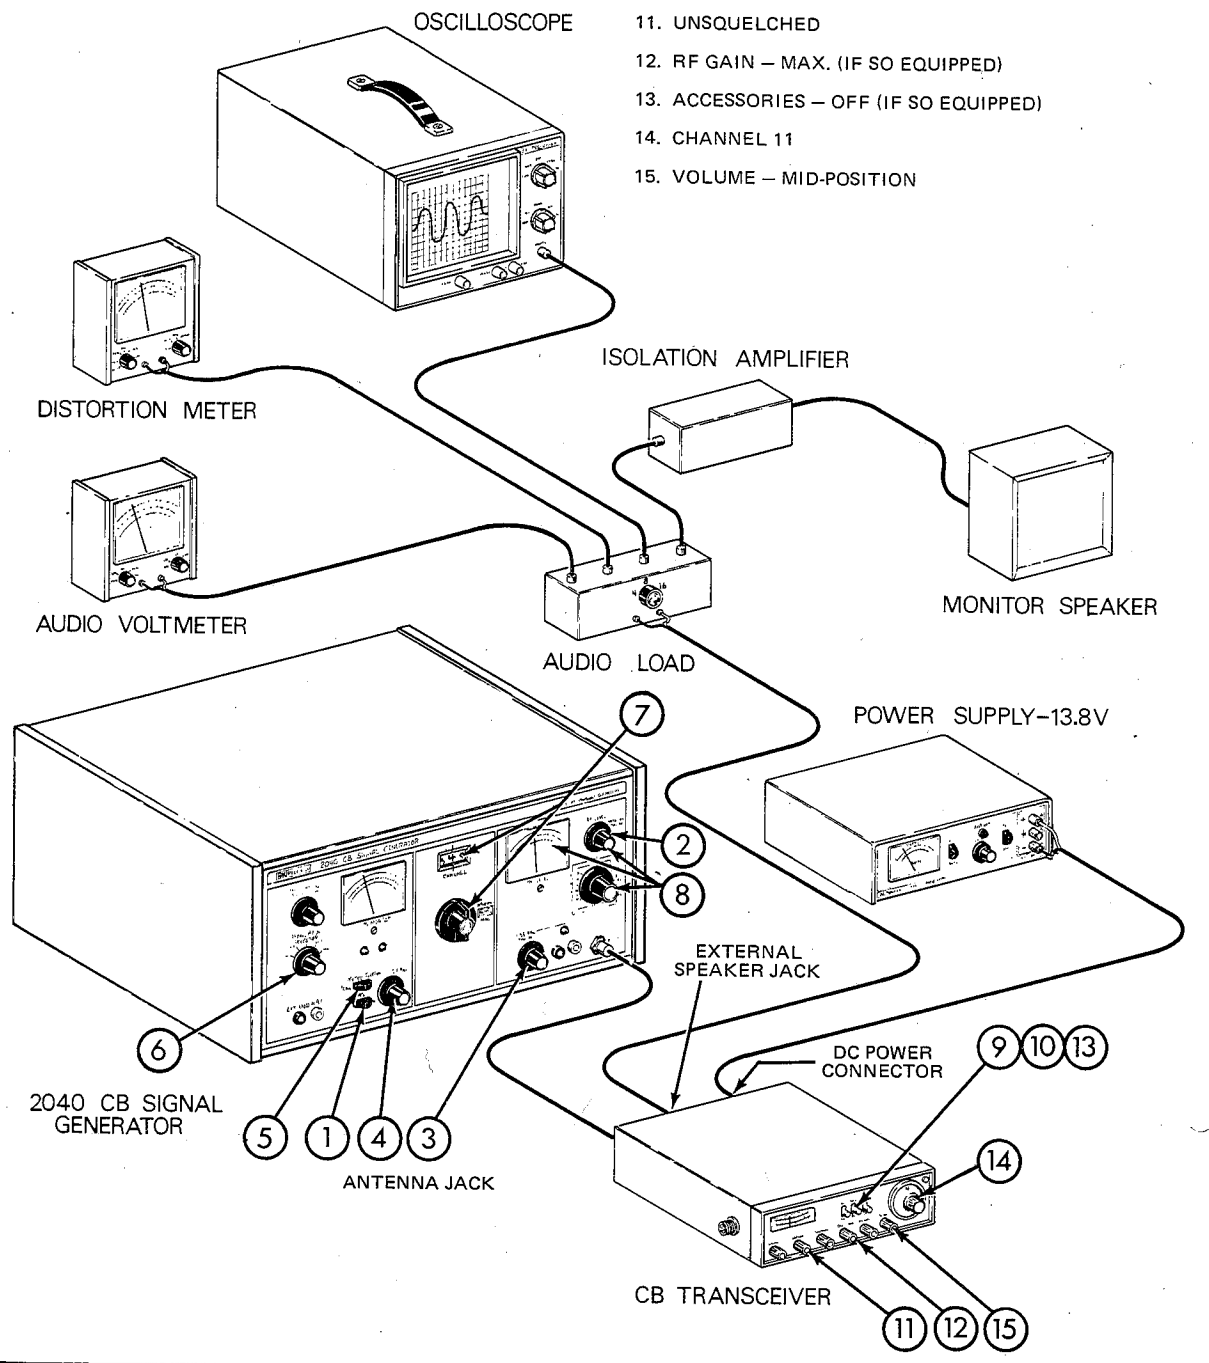

Fig. 5. Typical test equipment hookup for CB performance testing.
In addition to the CB Signal Generator, several other pieces of test equipment are required for CB transceiver performance testing. Fig. 5 shows the typical test equipment required for complete CB receiver performance testing. Fig. 6 shows how the test equipment requirements are simplified if the B & K-Precision Model 1040 CB ServiceMaster is used.
Since additional test equipment is normally connected across the audio load as shown in Fig. 5, several sets of test jacks in parallel with the audio load are very convenient.
The illustrations which accompany each test procedure show the absolute minimum of test equipment that can be used to adequately perform the measurement. However, Fig. 5 and 6 show the basic test equipment hook-up recommended for all performance tests. If either of these hook-ups is used, no changes of test equipment connections are needed throughout all the tests. Also, to test the next transceiver, only the connections directly to the transceiver need to be changed.
In addition to the test equipment connections, Fig. 5 and 6 show the initial control settings for the CB Signal Generator and the transceiver. We recommend the settings shown as the standard configuration to which the controls should be returned after each test. All testing instructions in this manual assume that the controls have been placed in this standard configuration at the start of each procedure.
1. Set the controls on the CB Signal Generator and transceiver as shown in Fig. 5.
1. CONTROLS SET PER FIGURE 5
1. Set controls on the CB Signal Generator and transceiver as shown in Fig. 5.
5. Set the channel selector (14) of the CB Signal Generator to the next higher adjacent setting. (Note that this is an unassigned frequency between channel 11 and channel 12.)